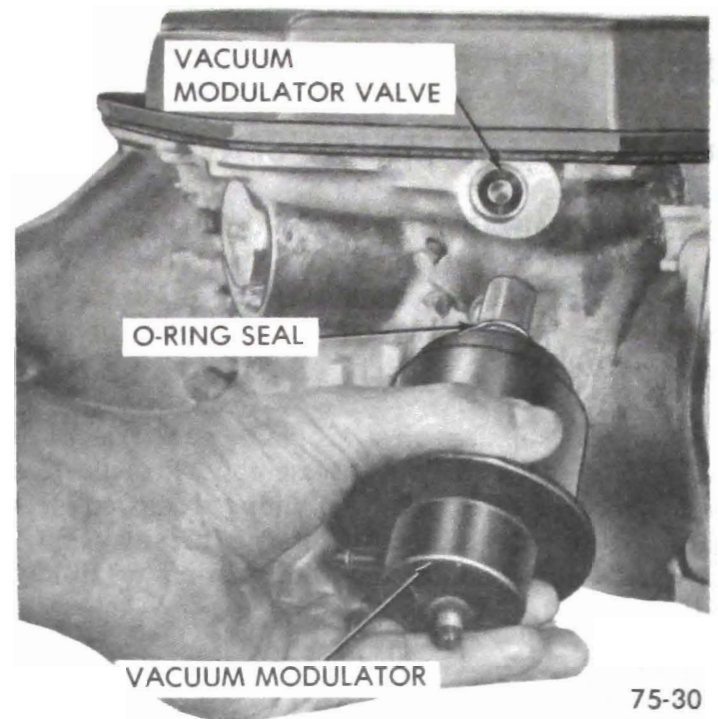

Figure 75-72
2. Remove vacuum modulator assembly "O" ring seal and modulator valve from case. See Figure 75-72.